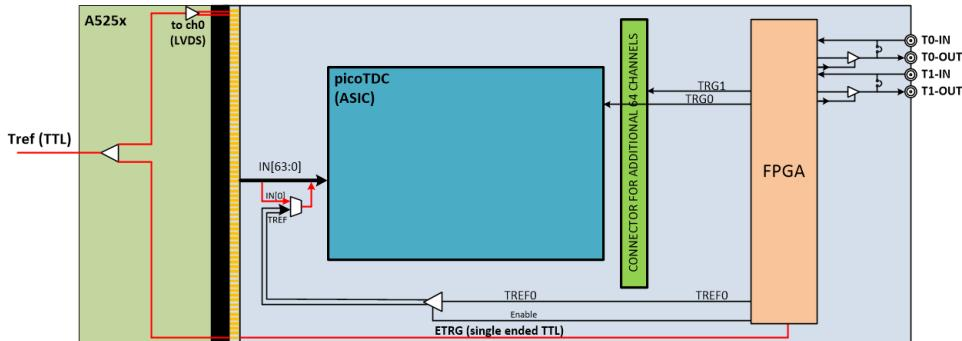

Fig. 9.4: Simplified block diagram of the Tref and trigger connections in case an adapter A525x for the A5203 edge connector is used.
3. sent to the reference channel only, via the A5255 or A5256 adapters. The reference signal is then duplicated on the adapter and fed to the FPGA (for triggering) and to the ch0 of the picoTDC chip (for time reference). See **Fig. 9.4**.